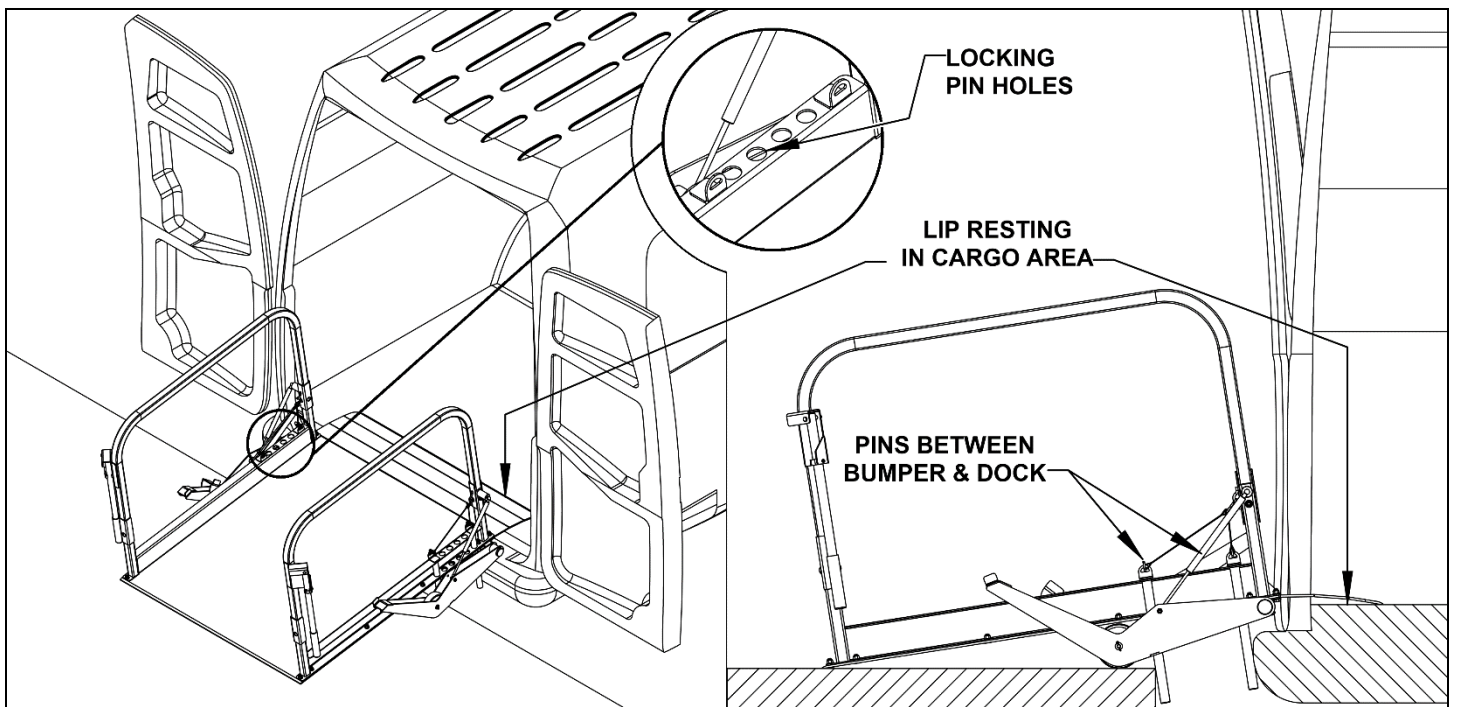

Figure 4
5. Ensure that the locking pins are positioned in the gap between the vehicle and the loading dock. You may need to re-position the locking pins by pulling them out and dropping them into one of the available positions (see Figure 4).